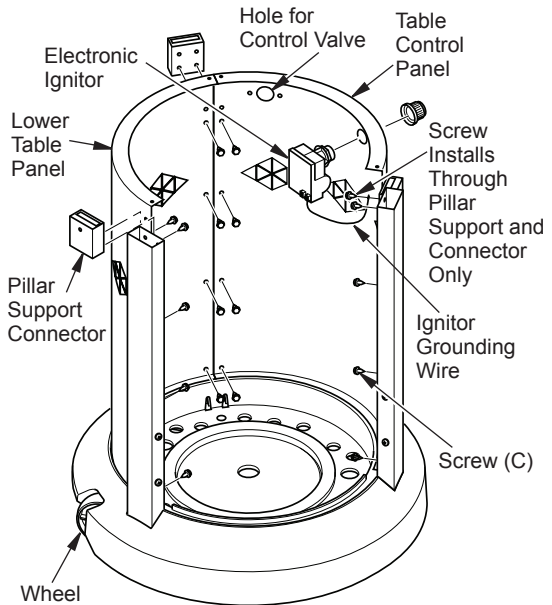

Figure 4 - Attaching Side Panels and Ignitor
2. Position lower table panel and table control panel onto base assembly as shown in Figure 4. Make certain lower table panel is on side of base with wheels. Using bottom 3 sets of holes only, attach panels to support pillars with 12 screws (C) (see Figure 4).
3. Top sets of screws (C) will insert through panels, through support pillars, then into pillar support connectors as shown in Figure 4 (6 screws). Make sure pillar support connectors are oriented as shown in Figure 4. The side of connectors with one hole should be facing outside heater and hole should be at the top. For support connectors closest to front opening, second screw will only install through panels and support connectors. Second screw will secure connector (see Figure 4). Attach ignitor ground wire with 1 screw as shown in Figure 4 (ignitor installed in step 4).
4. Install electronic ignitor through control panel as shown in Figure 4, page 5. Screw retainer ring and ignitor cap on from outside panel. Attach ignitor ground wire to ignitor.